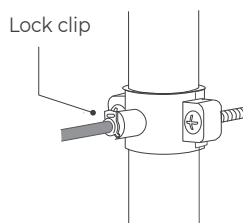

Figure 10
e. Pop the lock clip onto the fitting to secure the connection (**Figure 10**).